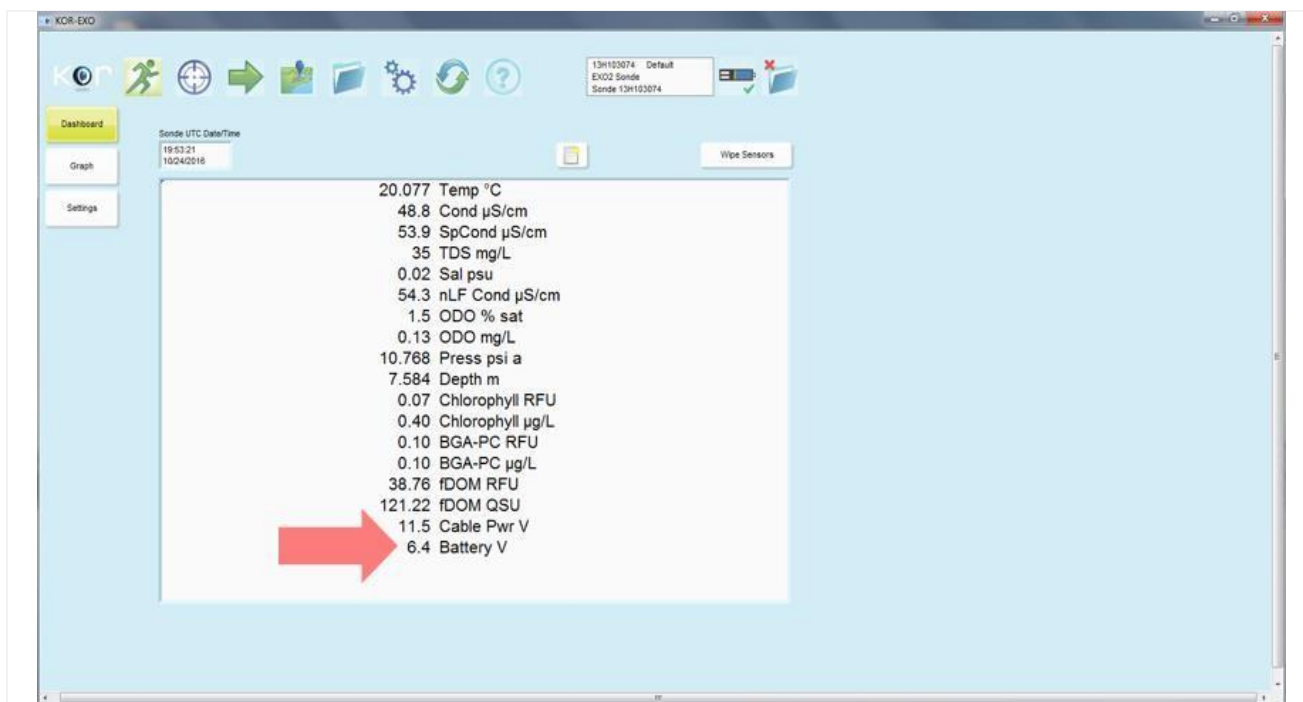

Figure 38. Internal Battery Voltage Check
**STEP 2** | Battery voltage data is available in the Multisonde Dashboard (Figure 38). Normal voltage for batteries is about 6.4. ***If the battery voltage is less than ~5.5 Volts, replace the batteries.*** Monitor the battery voltage more often if Field Science is aware the site is experiencing power issues. Reference Figure 35 to replace the batteries.